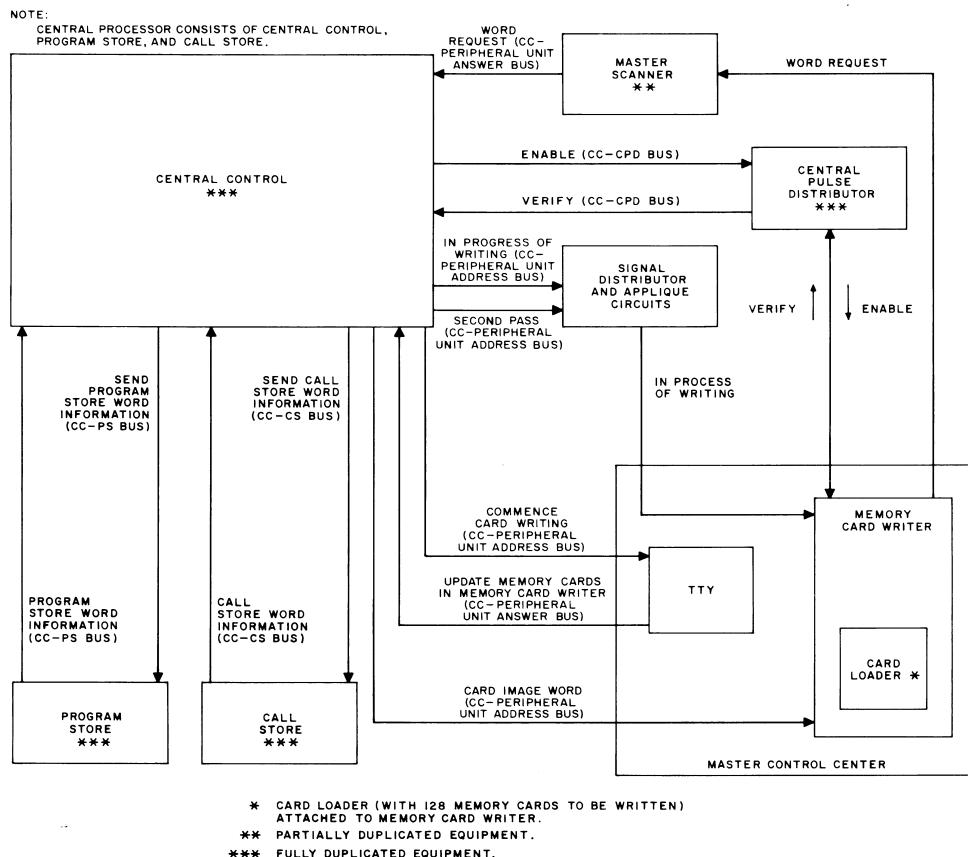

Fig. 8—Relation of MCW to System
**3.01** Before the MCW operation (Fig. 8) is initiated, a TTY message exchange is sent via the CC-peripheral unit bus between the central processor and the maintenance TTY. The TTY message requests the central processor to supply a list of the modules in the PS for which there are entries